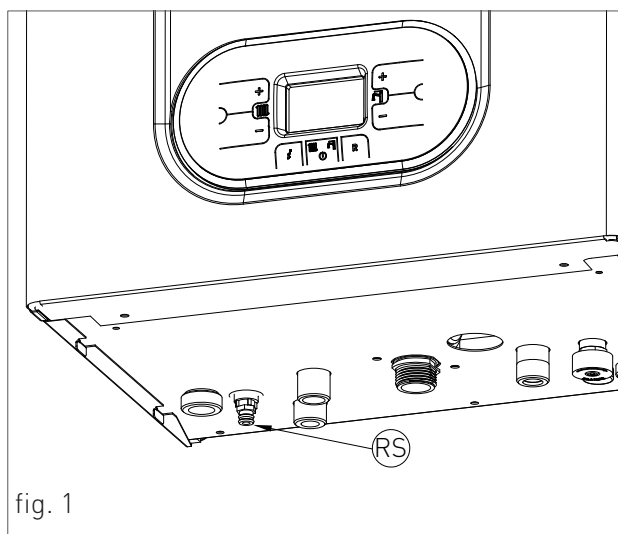

fig. 1
- › turn the discharge tap of the system ‘RS’ (fig. 1);